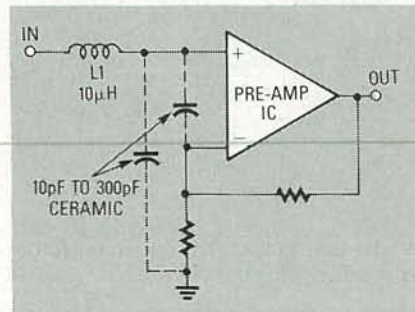

FIG. 25—THE CIRCUIT SHOWN HERE can be used to eliminate RF pickup.
0.1 µF ceramic or 0.001 µF tantalum capacitor across the IC power pins. The latter, RF pickup, manifests itself as AM demodulation. It can usually be eliminated with a 10-µH RF choke in series with an IC's input terminals, or by also decoupling the input with a capacitor, as in Fig. 25. R-E